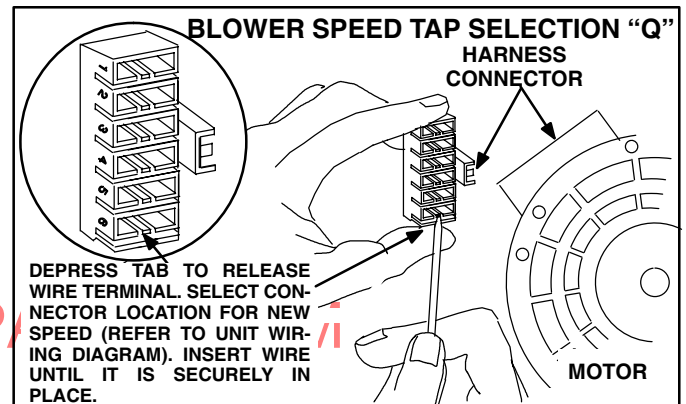

FIGURE 32
- 6 - Depress harness connector tab to release wire terminal. Select connector location for new speed (refer to unit wiring diagram). Insert wire terminal until it is securely in place. See figure 32.